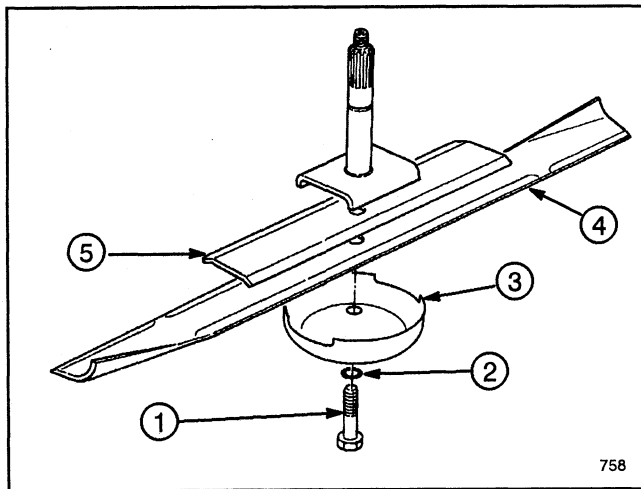

Figure 11
In certain rough ground conditions, the installation of the Recycler® Kit on the ProLine 32" mid-size mower model 30133 may result in the blade contacting the kickers. A thick stiffener/spacer must be ordered (Part No. 82-4770) to lower the blade assembly (Fig. 11).
1. Discard the (2) spacers (Part No. 82-4740) provided with the Recycler® Kit.
2. Remove (2) blade bolts, (2) washers, anti-scalp cup and blade (Fig. 11).
3. Install the new blade stiffener/spacer before re-installing the blade, anti-scalp cup, (2) washers and (2) blade bolts (Fig. 11).